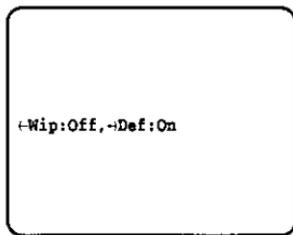

Fig. 14
1. Display the Wip / Def Menu as shown in Fig. 14 by repeating the previous procedures.